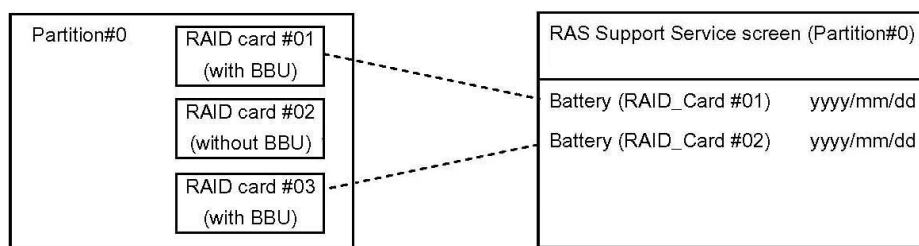

FIGURE 6.33 RAS Support Service screens (no BBU)
- Of the mounted RAID cards shown in FIGURE 6.33 RAS Support Service screens \(no BBU\), the RAID card without a BBU is not monitored by RAS Support Service.